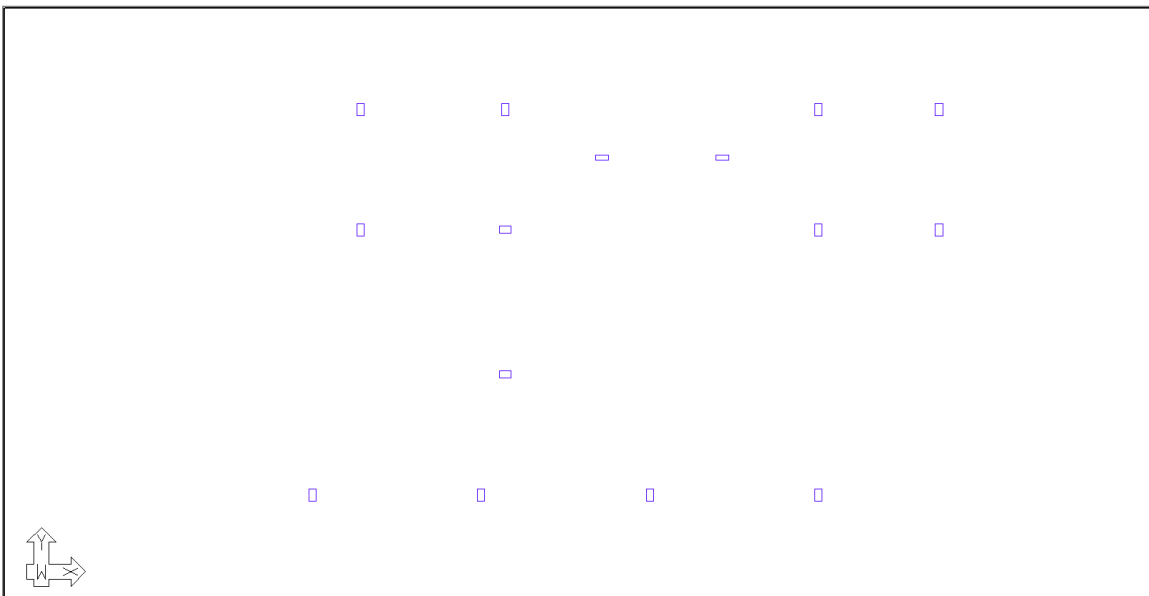

FIGURE 3-15
- Go to *Model* → *Transform* and click on the **Transform Column**  icon. This will automatically create the column builder objects based on the outline of the polylines from the DWG as shown in **FIGURE 3-15**.